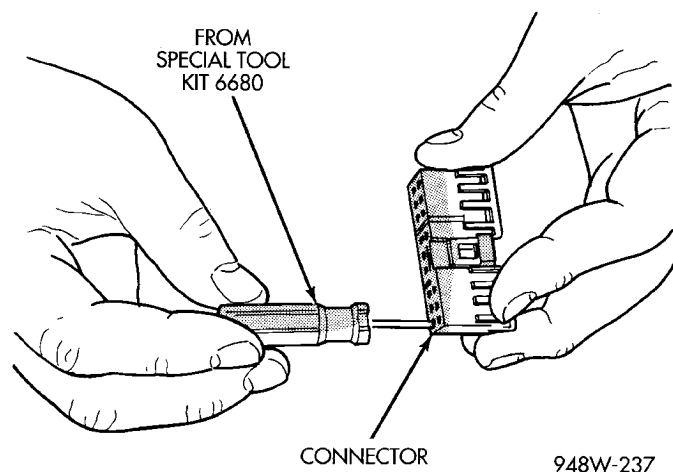

Fig. 17 Terminal Removal Using Special Tool
- (4) Position the connector locking finger away from the terminal using the proper pick from special tool kit 6680. Pull on the wire to remove the terminal from the connector (Fig. 16) (Fig. 17).
- (5) Reset the terminal locking tang, if it has one.
- (6) Insert the removed wire in the same cavity on the repair connector.
- (7) Repeat steps four through six for each wire in the connector, being sure that all wires are inserted into the proper cavities. For additional connector pin-out identification, refer to the wiring diagrams.